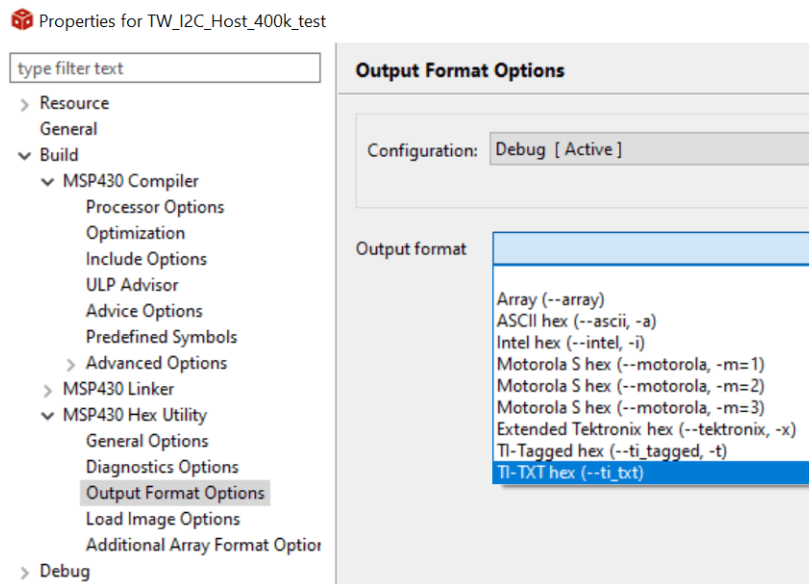

Figure 3-5. Generate TI-TXT Hex File in CCS
- Import the application code(here can use the demo bsl_software_invoke_app_demo_uart) into CCS and generate the target device firmware in TI-TXT hex format (see Figure 3-5).